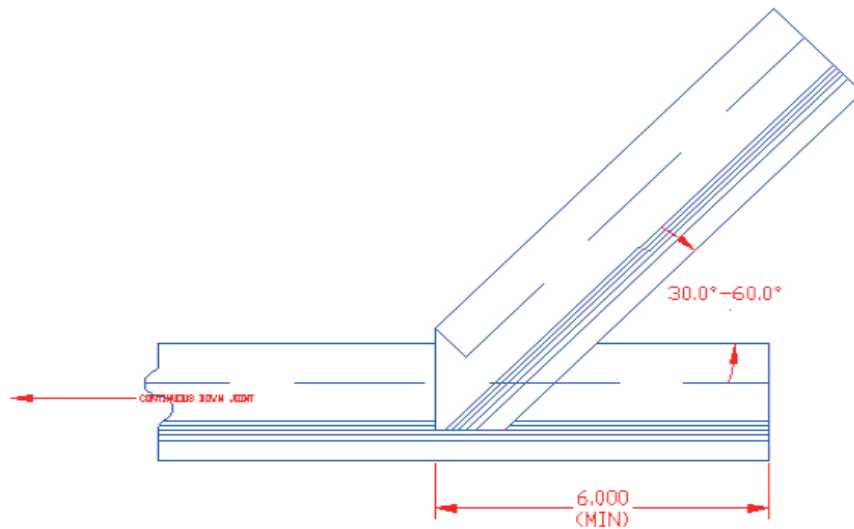

Figure 4 – Installed upturn
- While the V-Epoxy-R is still wet, install the upturns at the specified angle as shown in Figure 4.